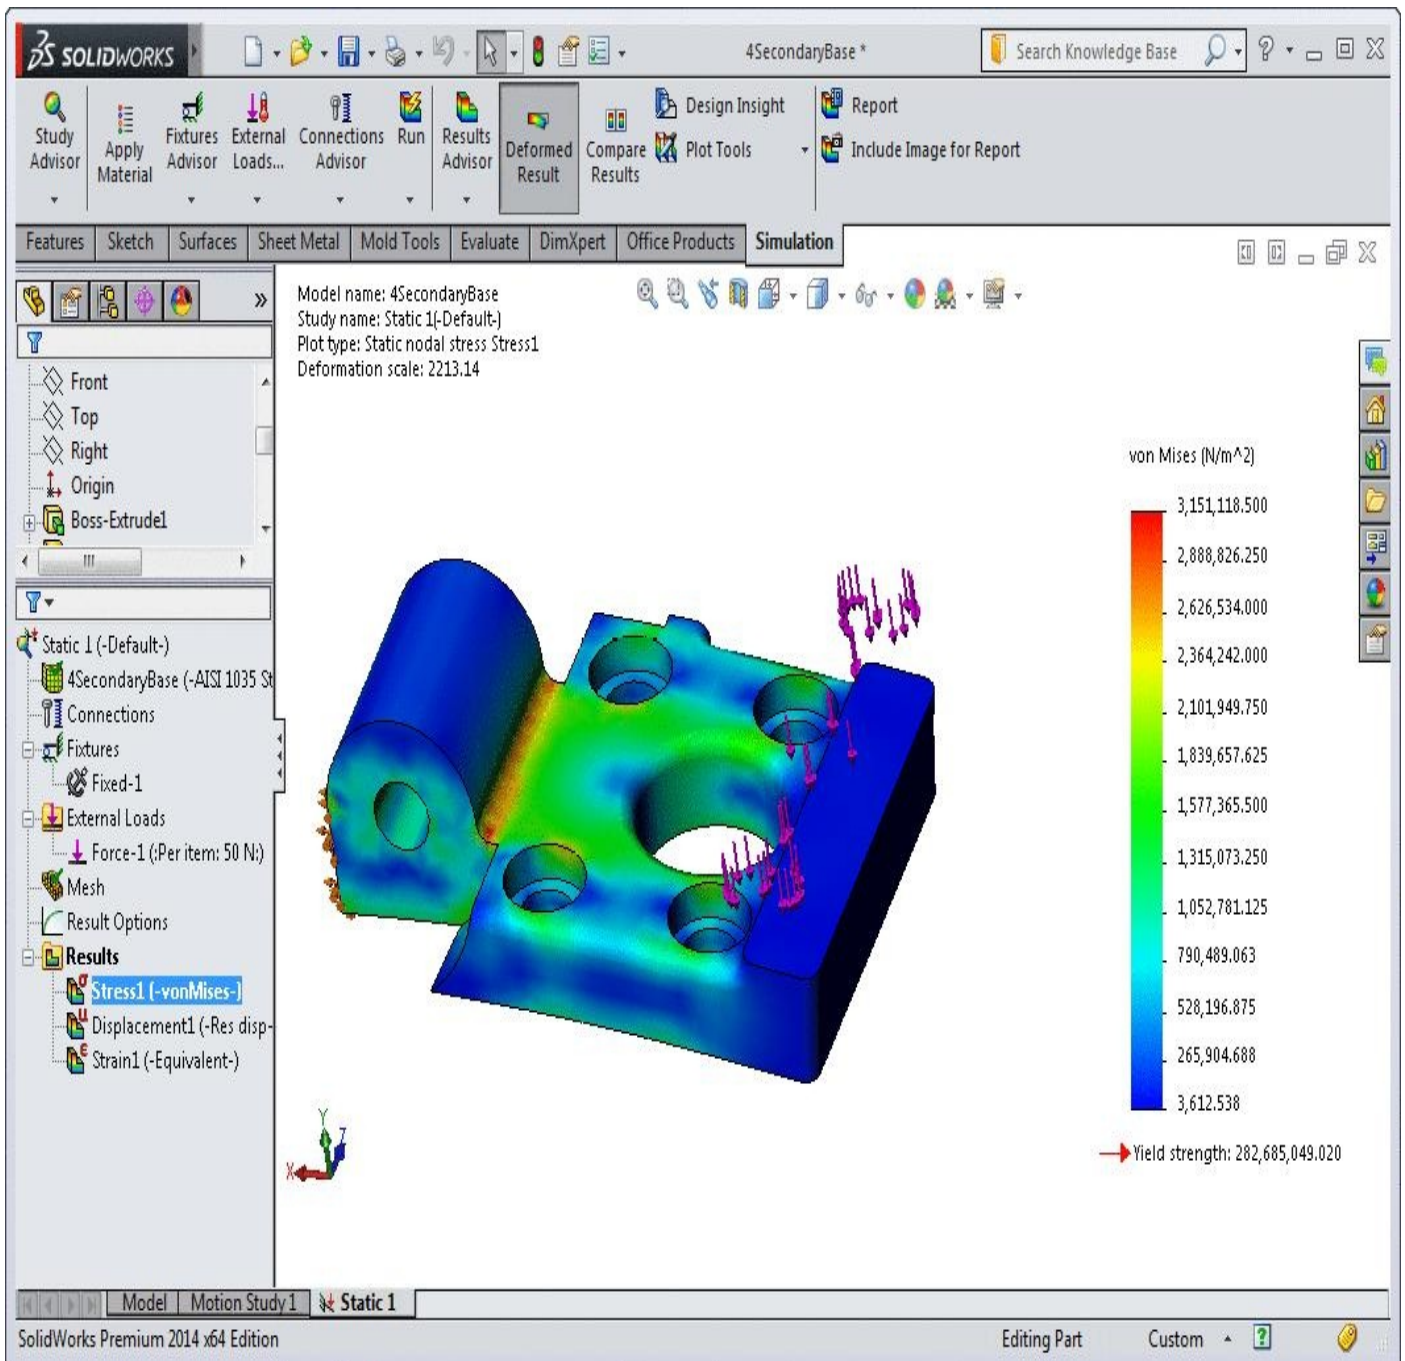

Figure-84. Preview of simulation result
- Click on the **Run** button from the **Ribbon**. The solving will start and the result will be displayed; refer to Figure-84.